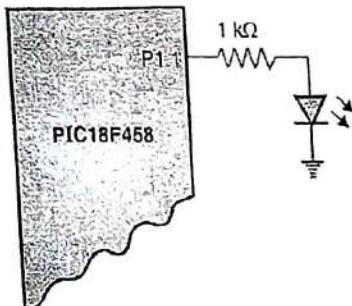

Fig. 7.4.1 : LED driven by PIC18F458 port pin (Method 1)
- Connect the cathode of LED to ground. Connect the anode of LED to port pin of PIC18F458, through a resistor as shown in Fig. 7.4.1.